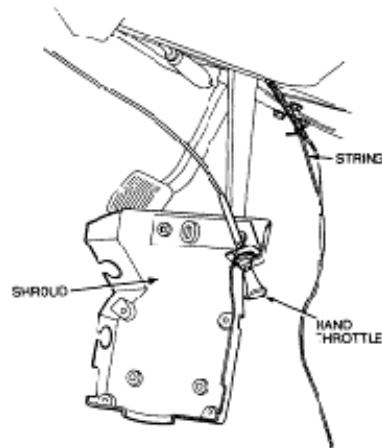

Figure 38 Hand Throttle Cable Removal
e. Loosen the nut securing the cable outer to the shroud bracket (Figure 38).